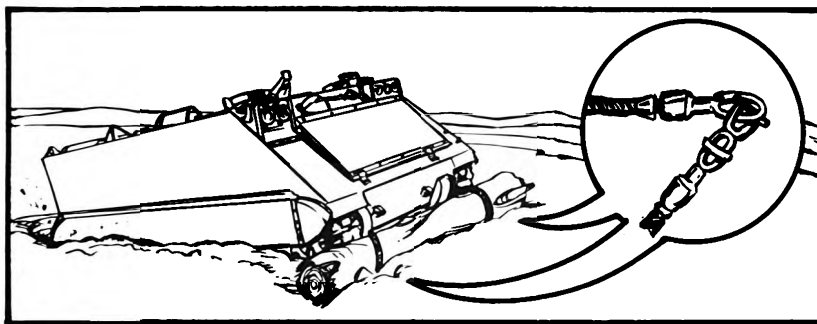

Figure 4. Recovering a bellied vehicle in mire.
(1) To recover a bellied vehicle in mire (figure 4), obtain a log long enough to span the width of the vehicle and of sufficient diameter to support the vehicle weight. The log is placed against both tracks, and a tow cable is placed so one end of the cable goes over the log and through the tracks from the inside. The other end of the tow cable is placed underneath the log, and the ends of the cable are connected together with a tow hook on the outside of the track to facilitate disconnecting. The same procedure is followed to attach the log to the track on the opposite side of the vehicle. By gradually applying power to the tracks, the slack in the tow cables will be taken up, pulling the log underneath the tracks until it comes in contact with the obstacle, anchoring the tracks and causing the vehicle to move.
(2) Follow these steps to self-recover a tracked vehicle bellied in mire: